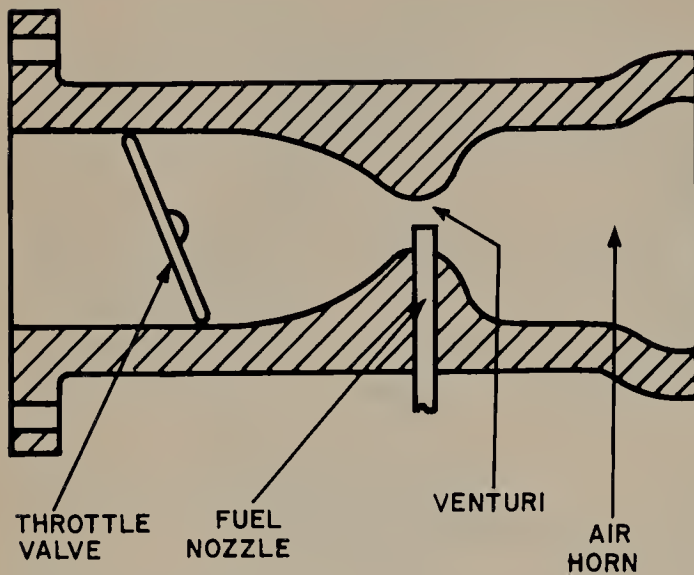

FIGURE 8.5 Simple carburetor consisting of an air horn, a fuel nozzle, and a throttle valve.
8.7 The Basic Carburetor. The carburetor has three basic parts besides the float system. These are the air horn, the fuel nozzle, and a throttle valve (Fig. 8.5). The throttle valve is a round plate fastened to a shaft. When the shaft is turned, the throttle valve is tilted more or less in the air horn (Fig. 8.6). Thus, it can be tilted to allow air to flow through freely, or turned to block the passage of air. This is the
The *air horn* has a restriction, or venturi, at the point where the nozzle enters it (Fig. 8.5). The purpose of the venturi is to create a partial vacuum, or low-pressure area, when air is passing through the air horn.